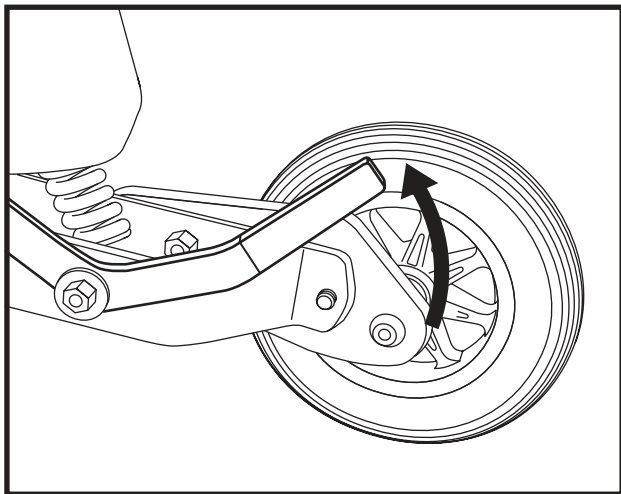

Figure 7. Freewheel Mode (left side shown)
1. Pull both levers upward to disengage the drive motors (freewheel mode). See figure 7.